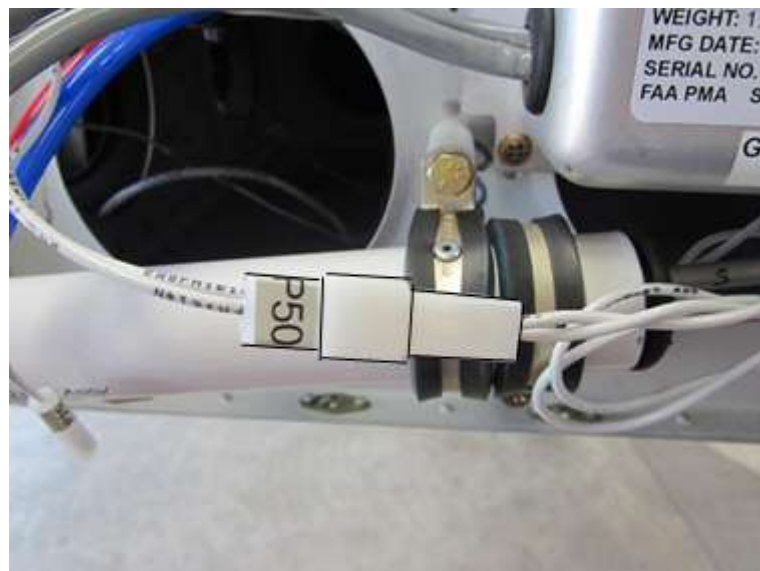

Figure 1 – View of connector P50.
2. The electrical connection of P50 & J50 (Figure 1) must not be disconnected at this point in time. Look for signs of charring or discolouration of the connector housing. Inspect for signs of damage to the pitot or static lines in the near vicinity of the electrical connector.